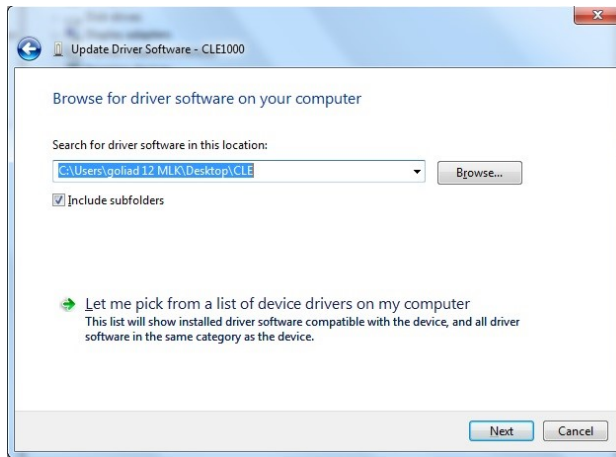

FIGURE 63. UPDATE DRIVER WINDOW
- b) Select **Browse My Computer for Driver** from Windows dialog. See Figure 63.